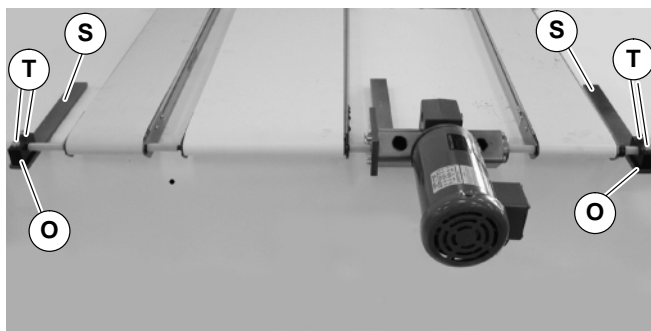

Figure 22
16. Attach bearing blocks (O of Figure 22) to bearing support bars (S) with screws (T). Tighten screws (T) to 35 ft-lb (45.5Nm).